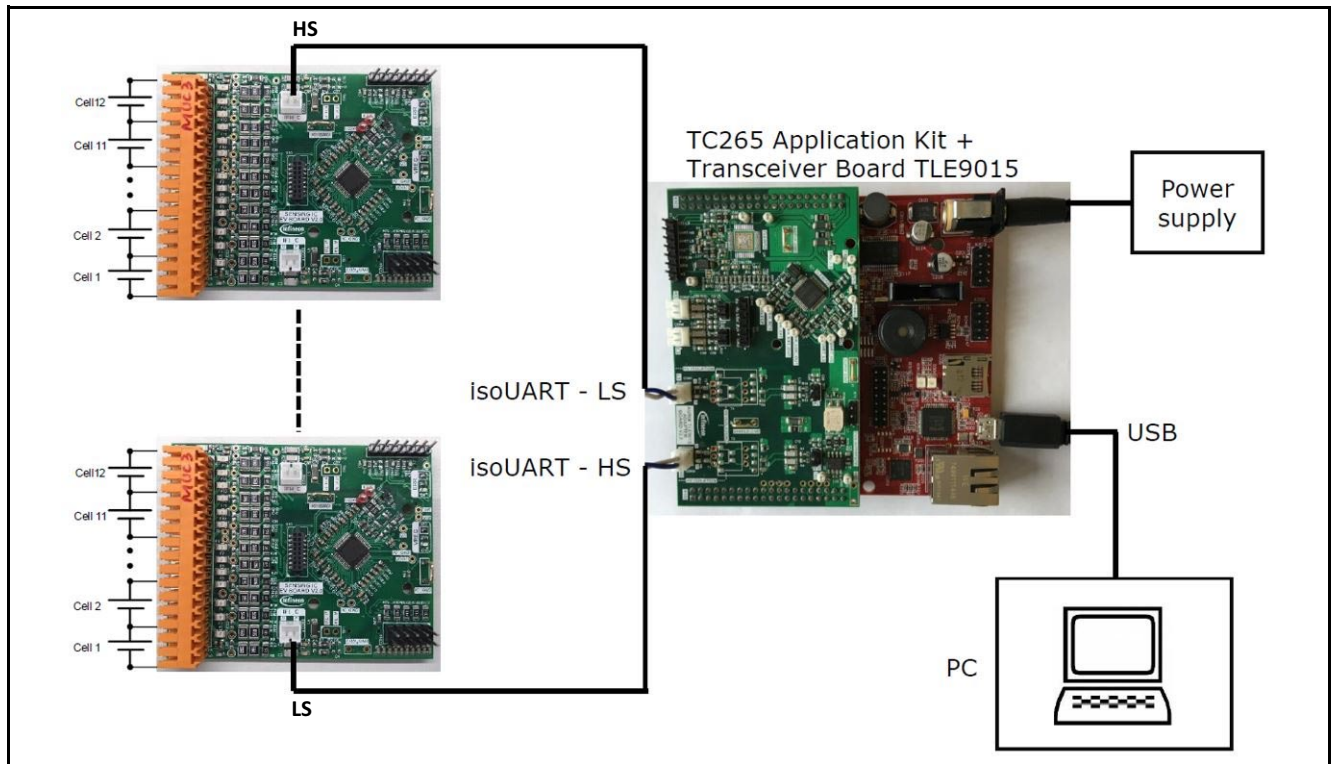
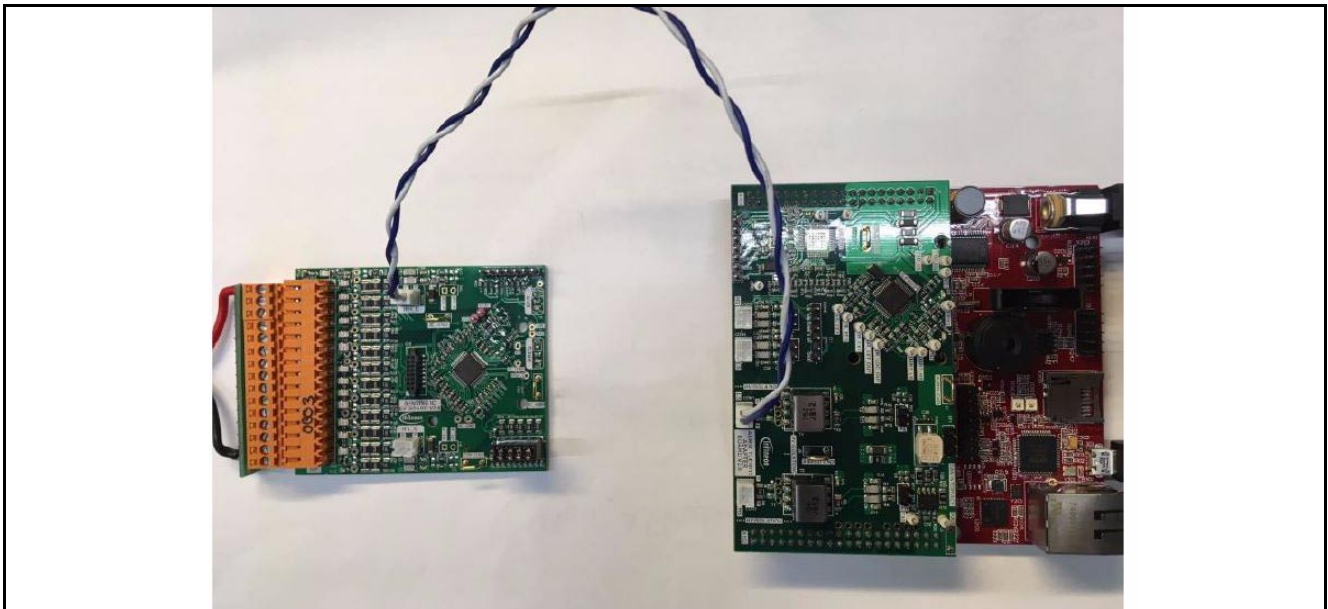

Figure 2 Demo Kit BMS
Figure 3 Hardware setup
- The TLE9015QU transceiver board is plugged onto the AURIX™ board (orientation as is Figure 2/Figure 3)
- Resistor ladder (cable with orange connector) is connected to the TLE9012AQU demo board (orange connector) as shown in Figure 3 on the left side. In V5 of the evaluation kit, the resistor ladder is included on the PCB and connected through a solder bump.
- Use the iso UART cable (blue/white) cable to connect the transceiver board with the sensing board as shown in Figure 3